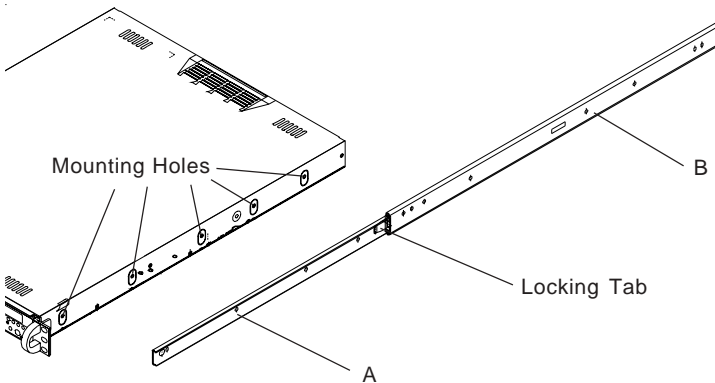

Figure 2-1. Identifying the Sections of the Rack Rails
You should have received two rack rail assemblies with the SuperServer 6013P-8. Each of these assemblies consist of three sections: an inner fixed chassis rail that secures to the 6013P-8 (A) and an outer fixed rack rail that secures directly to the rack itself (B). A sliding rail guide sandwiched between the two should remain attached to the fixed rack rail. (See Figure 2-1.) The A and B rails must be detached from each other to install.